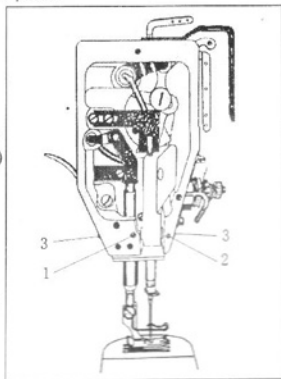

Fig.18
1) The needle punches longitudinally into the center of the needle plate slot position adjustment (Fig. 18)